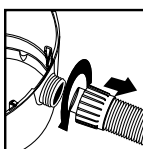

FIGURE 21
31. Unscrew hose locking-nut and remove hose from inlet. **FIGURE 21.**